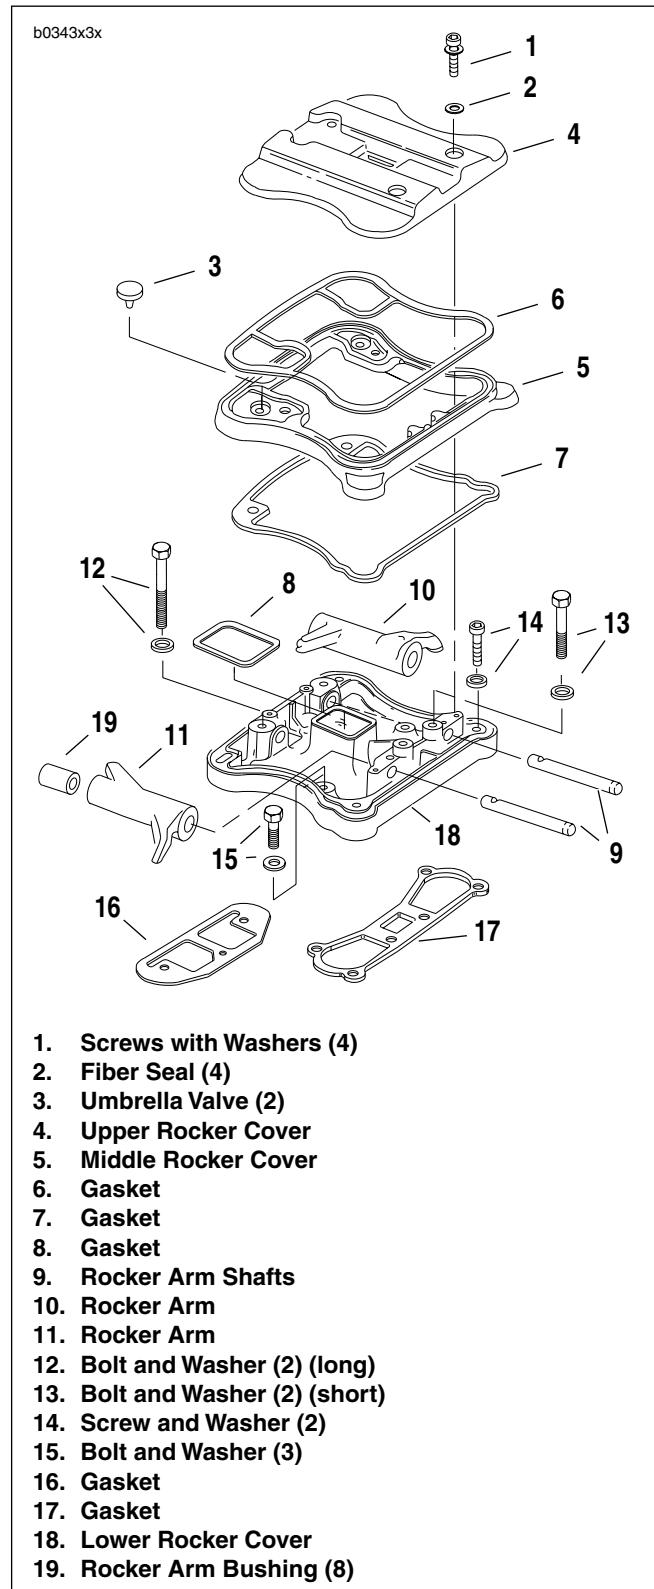

Figure 3-6. Rocker Arm Cover
1. See Figure 3-6. Remove screws with washers (1) and fiber seals (2). Discard fiber seals.
8. See Figure 3-6. Remove rocker arms (10, 11); mark them for reassembly in their original locations.